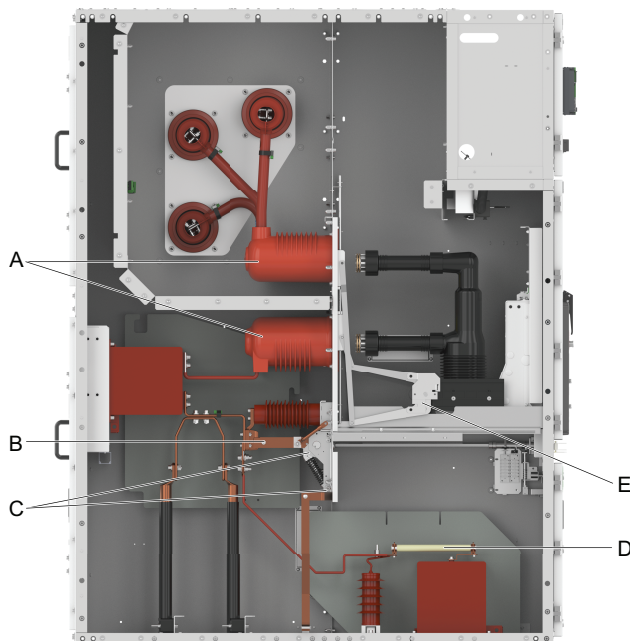

Figure 86
2. Clean lubrication points using a lint-free cloth, Refer to Figure 86.